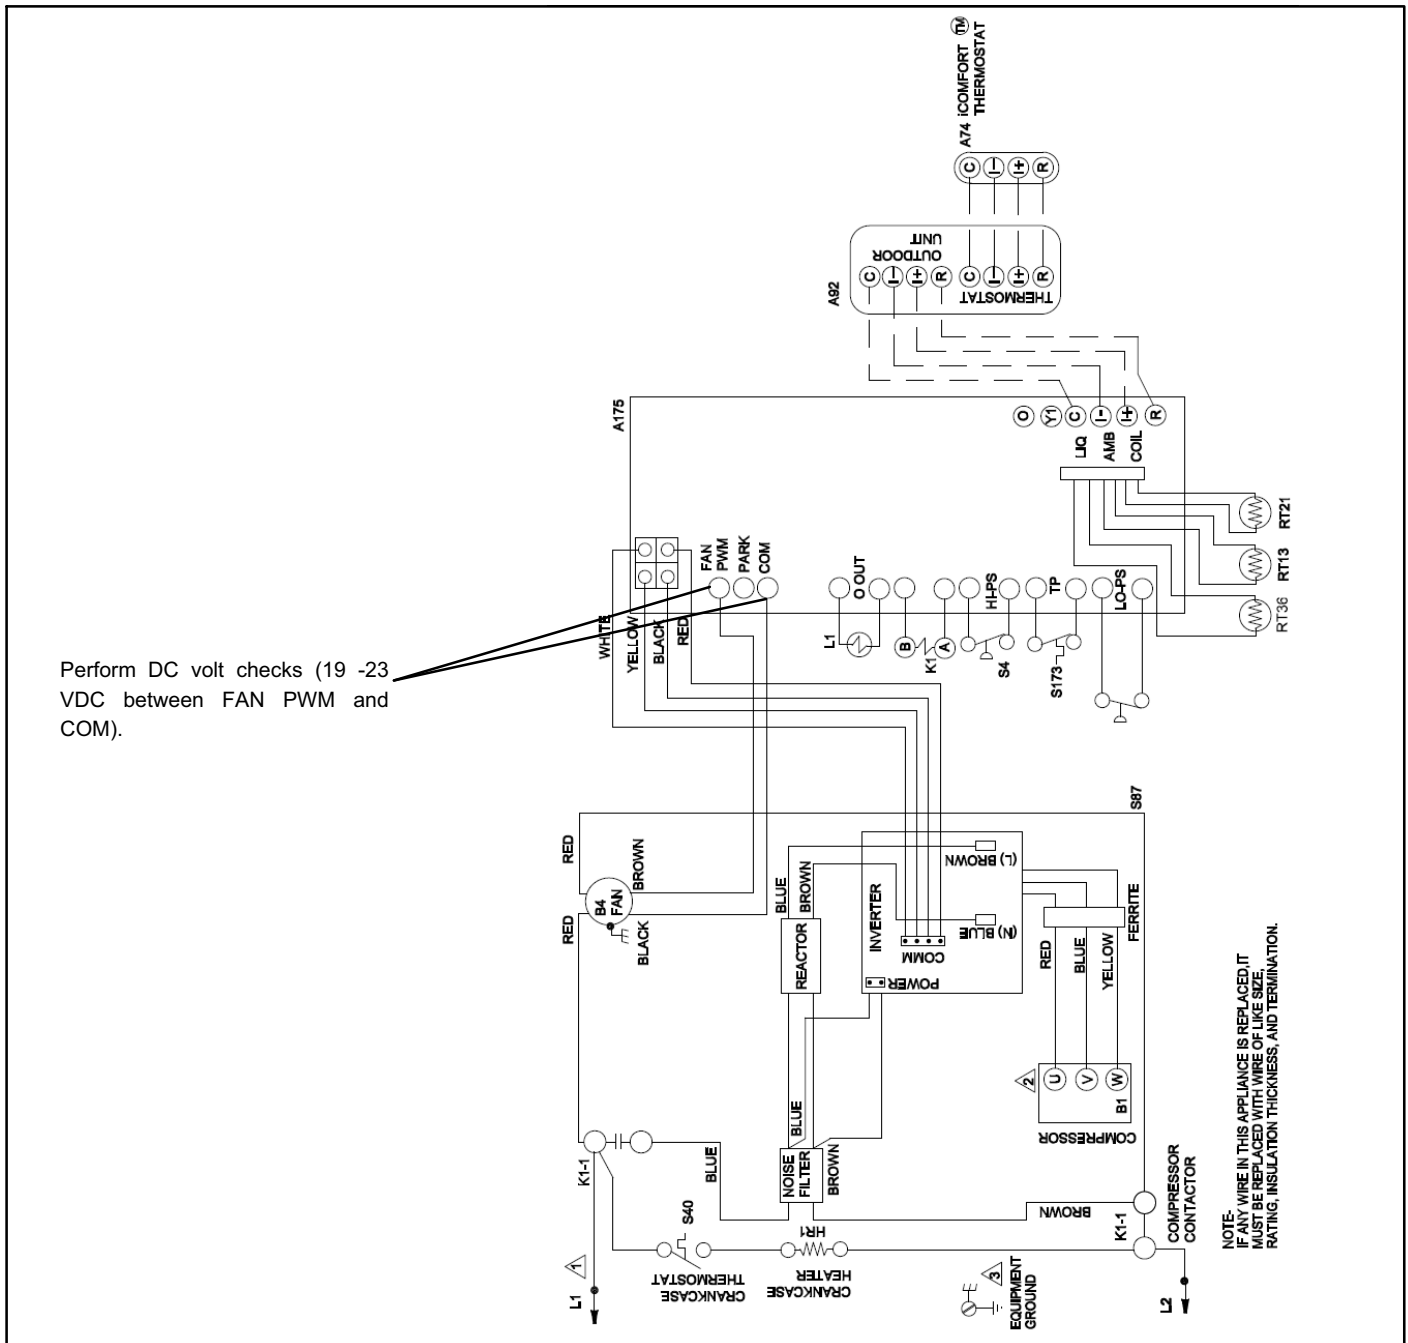

Figure 46. VAC Voltage Check
Check for 208/240 VAC power at inverter contactor (red wires) (see figure 46).
2. Voltage present – Perform DC volt checks (19 -23 VDC between FAN PWM and COM) (see figure 46).